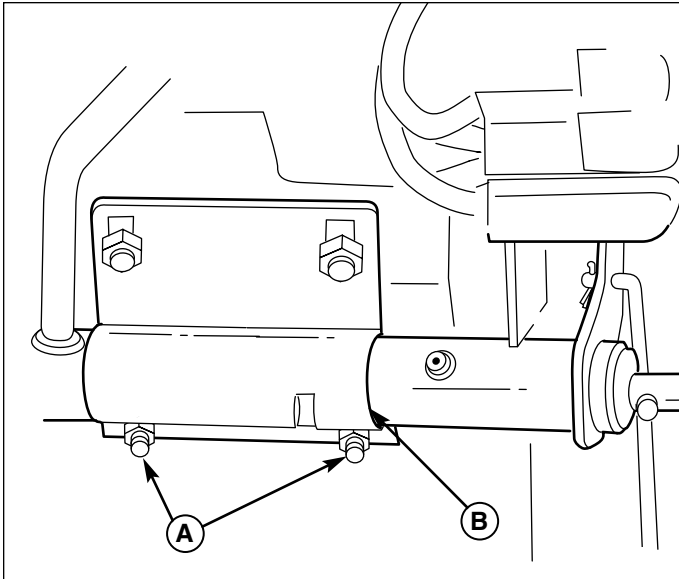
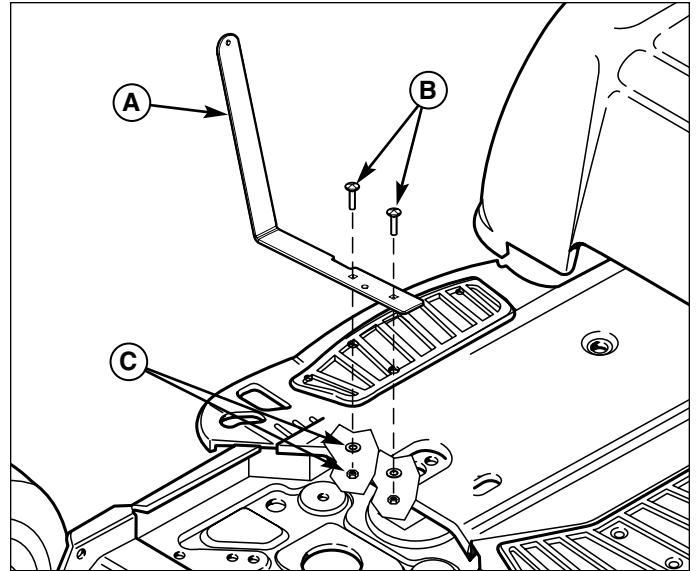

Figure 21. Underside of Left Footrest.
Figure 22. Control Rod Support
NOTE: If installing the dozer attachment on a unit equipped with a snowcab, replace the control rod support (A, Figure 22) with the hanging support (Ref. No. 41, Figure 8). Mount the hanging support to the front cab cross-bar.
1. Remove and discard the two rear nuts, lockwashers, and carriage bolts (A, Figure 21) securing the back of the foot pedal plate (B).
2. Using the foot pedal plate (B) as a guide, drill two 5/16" holes up through the foot pedal pad.
3. Set the angling control support (A, Figure 22) on the foot rest pad. Insert two 5/16-18 x 1-1/4 carriage bolts (B) through the support, footrest pad, footrest, and foot pedal plate. Secure using new lockwashers and nuts (C).